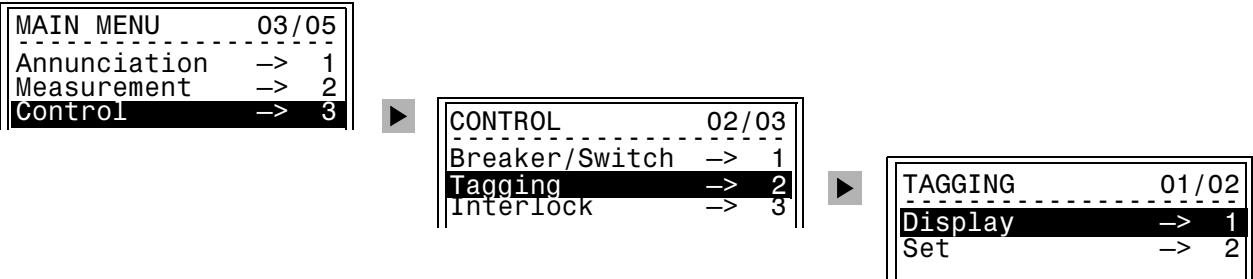

Figure 4-11 Tagging Equipment from the HMI
- The status of the tagging is displayed on the HMI, **Main Menu** → **Control** → **Tagging** → **Display** (Figure 4-11), or changed using